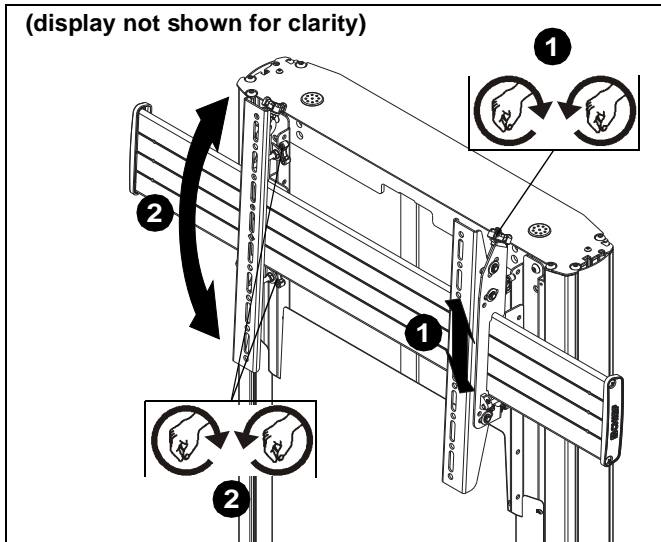

Figure 19
1. Use upper knob on back of interface brackets (A and B) to adjust the height of the display. (See Figure 19)
2. Use middle and lower knobs on back of interface brackets (A and B) to make plumb adjustments to display (See Figure 19)